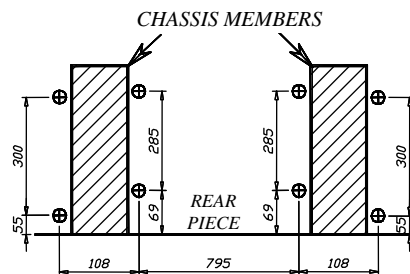
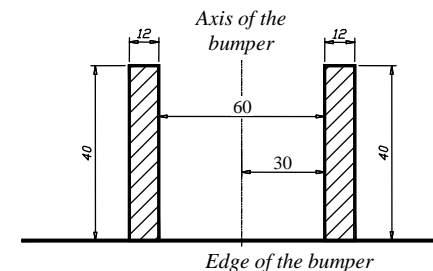

Fig. 2 View from the bottom of the car (after take off the bumper)
Fig. 3
2. From the bottom of the car mark points according to fig. 2. Next drill holes using bit  $\varnothing 1\text{mm}$ , make it very carefully.
3. Inside the trunk put suitable upper fish-plates (pos. 8) on to made holes.
4. From the bottom of the car put side brackets (pos. 4 and 5) and through holes (pos. A) and fish-plates (pos. 8) fix using bolts M10x35mm (pos. 10).
5. From the bottom of the car put fish-plates (pos. 6 and 7), next through holes (pos. B) and fish-plates (pos. 8) fix using bolts M10x35mm (pos. 10) .
6. Through holes (pos. C) fix main bar of the towbar (pos. 1) with side brackets using bolts M12x35mm (pos. 9).
8. Install the bumper after cut out of its fragments (see fig. 3).
9. Fix body of the automat and place tow-ball according to supplied instruction. Note! Remember to place socket plate (pos. 3) as shown on the drawing 1.